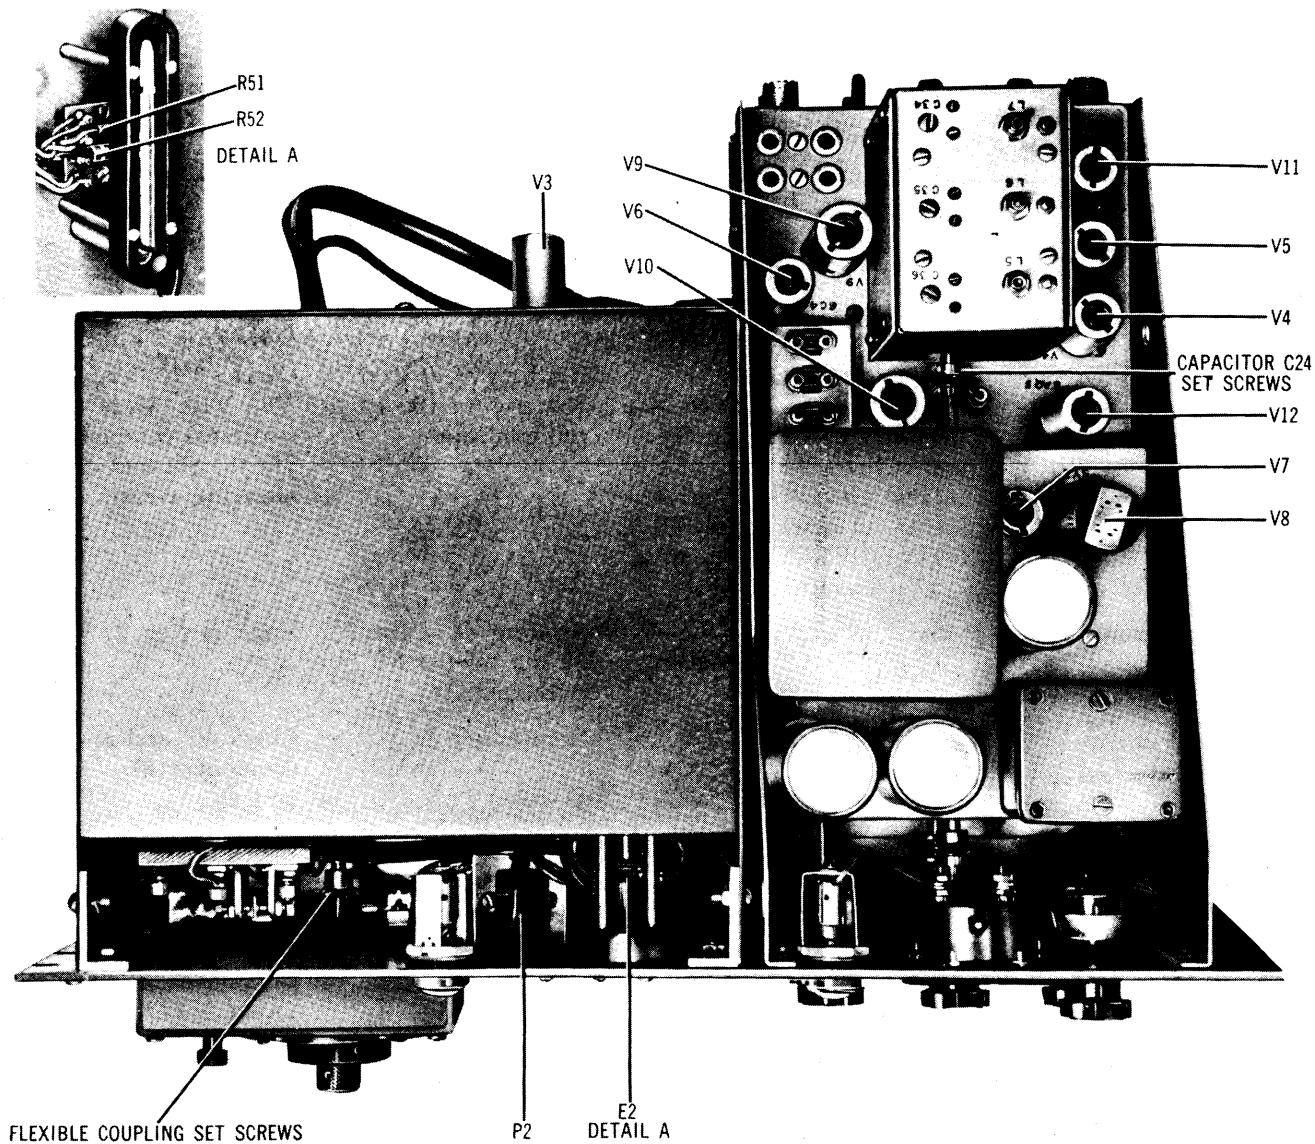
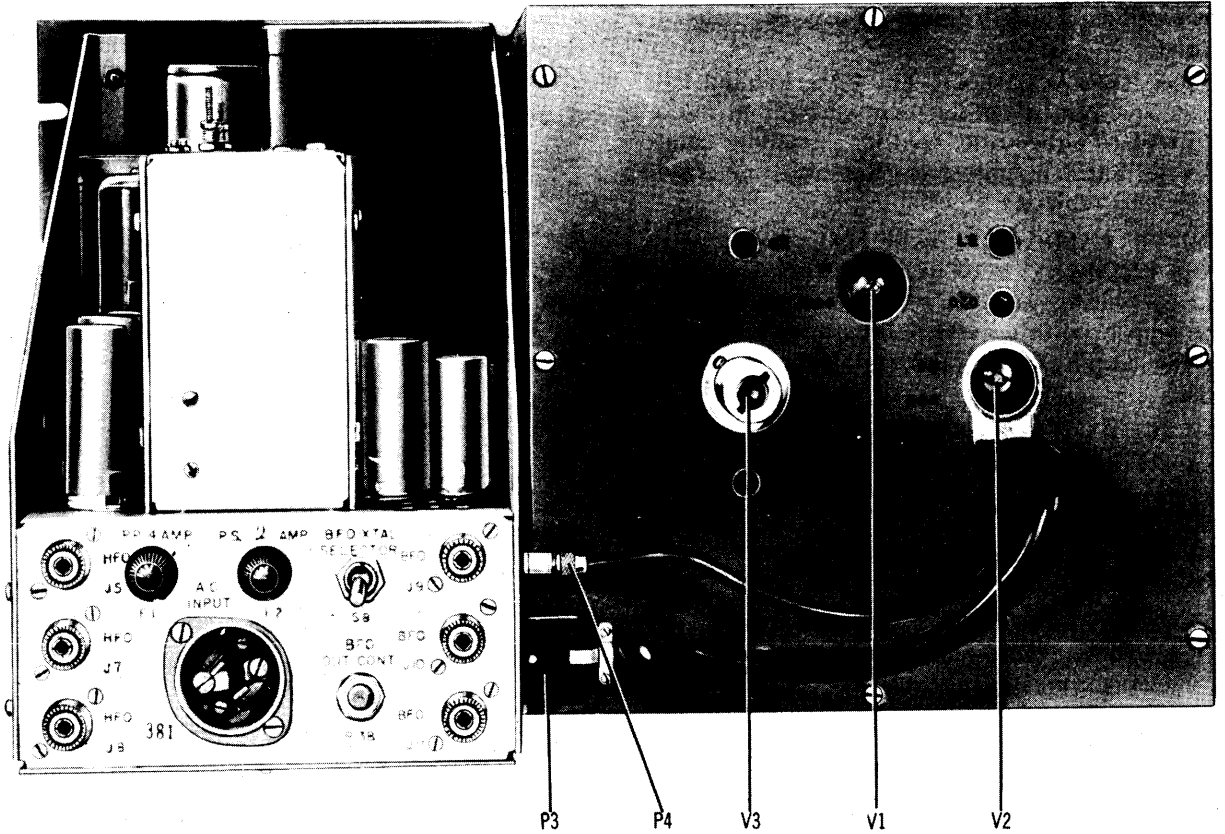

Figure 5-2. Variable Master Oscillator, Top View
Figure 5-3. Variable Master Oscillator, Rear View
b. Loosen the coupler set-screw closest to the oven on the shaft located between the wall of the oven and the counter bevel gear (see figure 5-2). Use the special Allen wrench provided.
d. Disconnect oven connectors P3 and P4 (see figure 5-3) located at the rear of the oven.
e. Disconnect oven connector (see figure 5-2) located between the oven assembly and the front panel.
5-10. TUBE REPLACEMENT. Nine tubes, V4 through V12, are mounted on the electronic chassis (see figure 5-2). These tubes are accessible from the top of the chassis and may be replaced as required. Three tubes, V1, V2, and V3, are mounted on the mechanical chassis (see figure 5-3). Do not replace V1 unless it is definitely suspected of being defective or erratic. If V1 is replaced, the oscillator calibration
- d. Tighten the flexible coupling screws (see figure 5-2) accessible at the bottom of the oscillator, between the front of the outer oven and the front panel. Use the special Allen wrench provided (see figure 2-1).